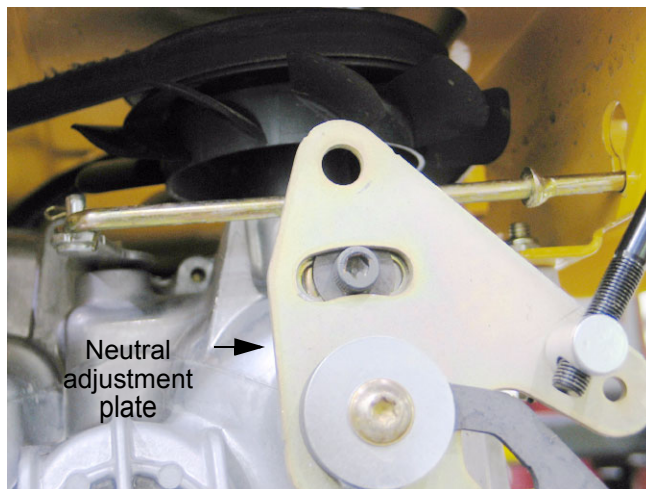

Figure 7.1
- 7.1. Begin to adjust the steering by confirming that both EZTs are correctly adjusted for neutral control. See Figure 7.1.